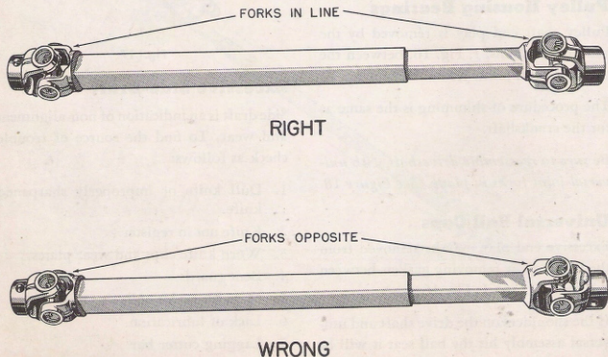

Fig. 18
Be sure to reassemble driveshaft with universal joint forks in plane. See Figure 18.
5. Driveshaft assembled with universal joints not in plane. Figure 18 shows proper and improper assembly.